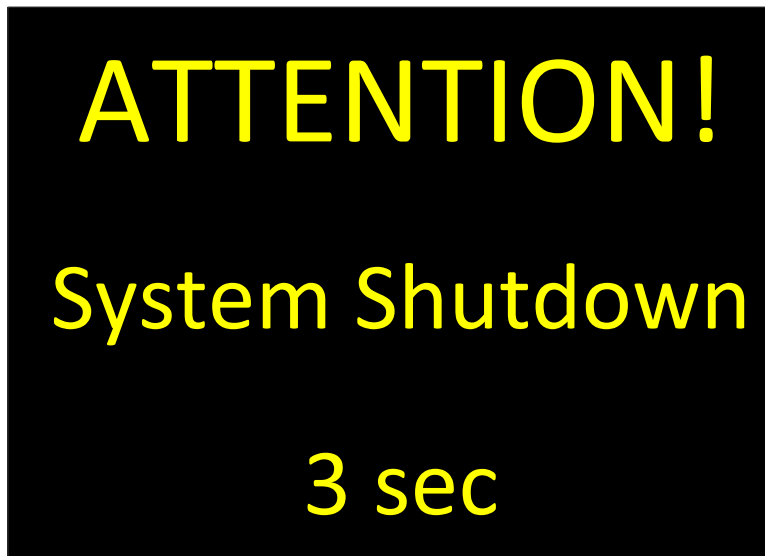

Figure 6 System Shutdown Screen
2. Display the System Shutdown screen depicted in Figure 6.